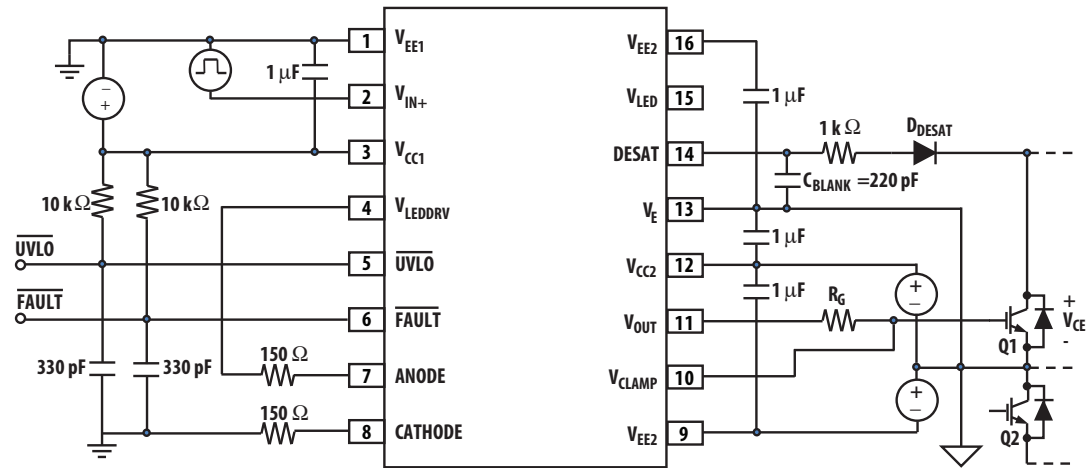
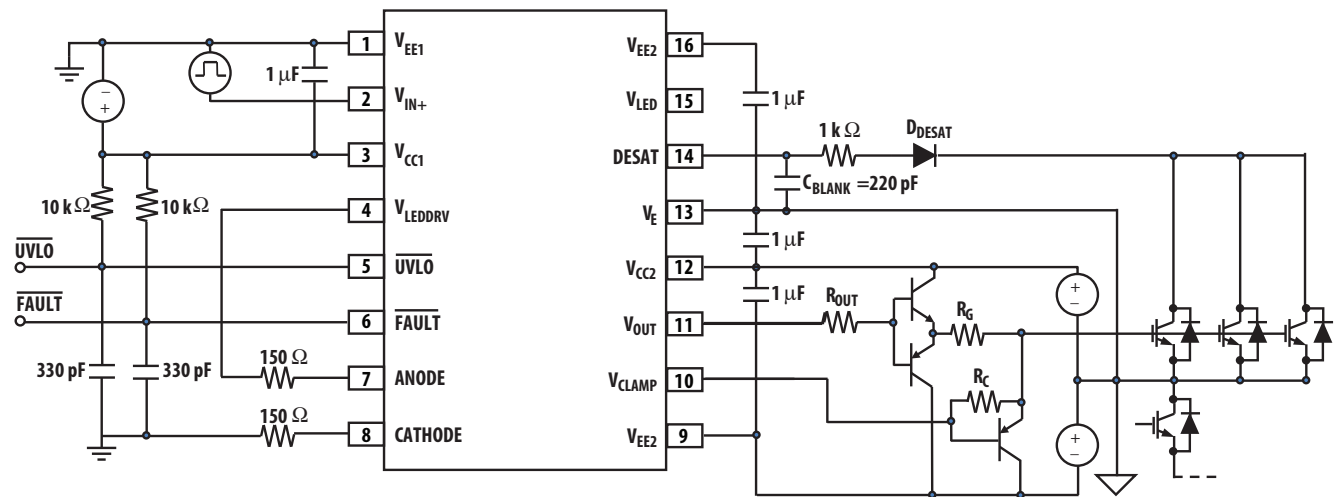

Figure 22. Typical gate drive circuits with DESAT detection
Figure 23. Typical parallel IGBT gate drive circuits with DESAT detection
The nominal blanking time is calculated in terms of external capacitance ( $C_{BLANK}$ , see Figure 22 and Figure 23), FAULT threshold voltage ( $V_{DESAT}$ ), and DESAT charge current ( $I_{CHG}$ ) in addition to an internal DESAT blanking time ( $t_{DESAT(BLANKING)}$ ).
Step 1: Calculate  $R_G$  minimum from the  $I_{O(PEAK)}$  specification. The IGBT and  $R_G$  in Figure 22 can be analyzed as a simple RC circuit with a voltage supplied by ACPL-337J.
In the recommended application circuit shown in Figure 22, the voltage on pin 14 (DESAT) is  $V_{DESAT} = V_F + V_{CE}$ , where  $V_F$  is the forward ON voltage of  $D_{DESAT}$  and  $V_{CE}$  is the IGBT collector-to-emitter voltage. The value of  $V_{CE}$  that triggers DESAT to signal a FAULT condition is nominally  $7\text{ V} - V_F$ . If desired, this DESAT threshold voltage can be decreased by using multiple DESAT diodes or low-voltage Zener diode in series. If  $n$  is the number of DESAT diodes, the nominal threshold value becomes  $V_{CE,FAULT(TH)} = 7\text{ V} - n \times V_F$ . If a Zener diode is used, the nominal threshold value becomes  $V_{CE,FAULT(TH)} = 7\text{ V} - V_F - V_Z$ . When using two diodes instead of one, then diodes with half of the total required maximum reverse-voltage rating may be chosen.